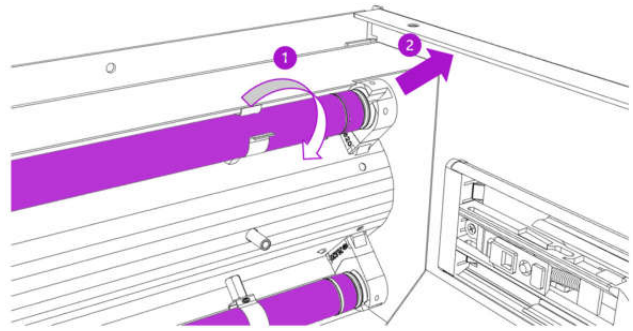

Abb. 17
- Turn the UV-C lamps in direction of arrow as shown in Fig. 17 (1) until you hear a clicking sound. Remove UV-C lamps in direction of arrow (2). Dispose of the UV-C lamps (see 7, page 30)